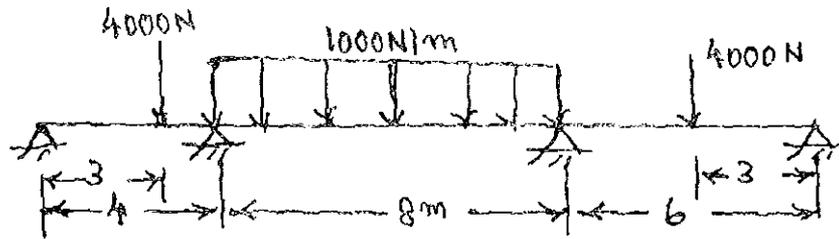

Fig. 3
12. (a) Find the support moments and draw bending moment diagram of the continuous beam shown in the Fig. 3 using three moment equation.
- (b) Find the support moments and draw bending moment diagram of the continuous beam shown in the Fig. 3 using moment distribution method.